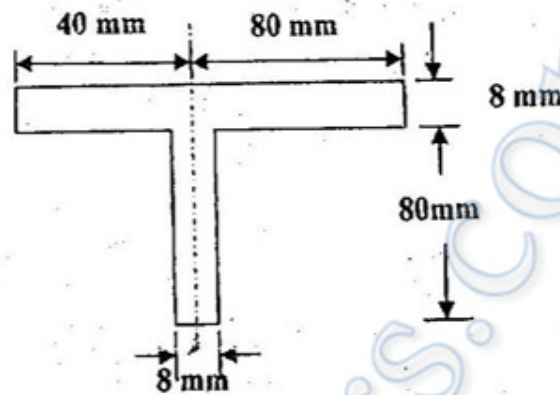

Fig. Q. 11 (b)
- (b) Obtain the bending stress values at all the corner points for the section shown in Fig. Q. 11 (b). (16)